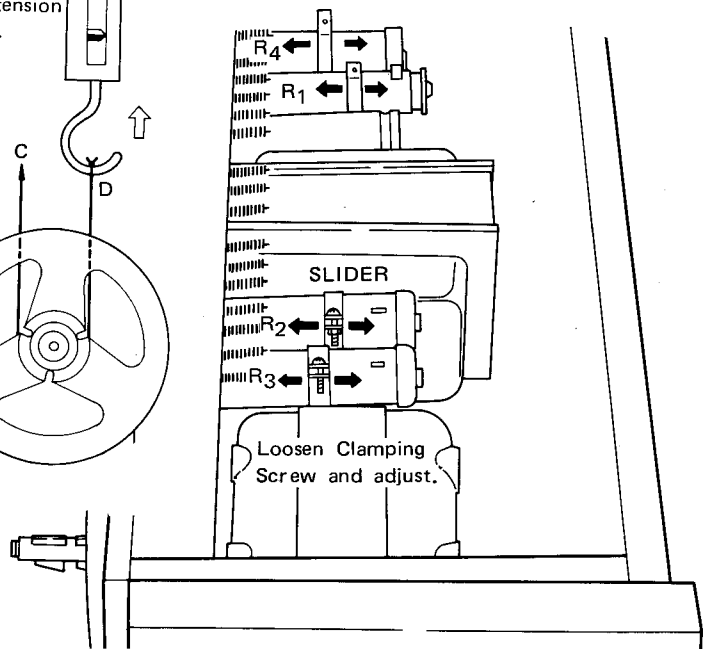

Fig. 12
3. Adjust slider (R_2 500 Ω) so that the gauge reads 93 ~ 110g (280 ~ 330g.cm) (Fig. 12).